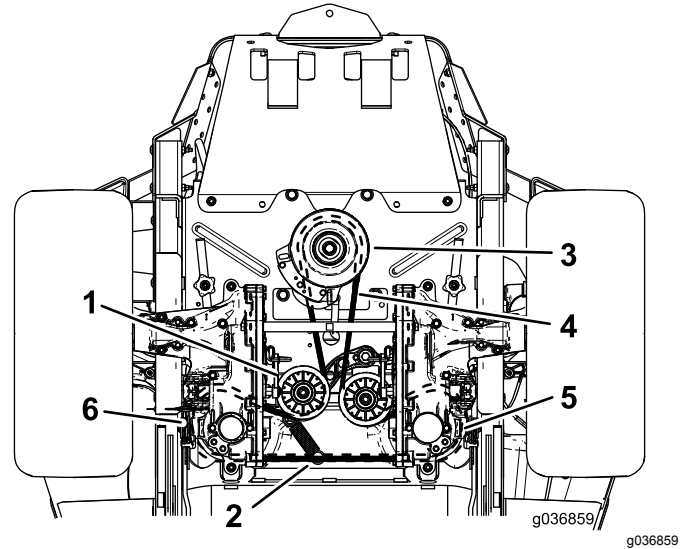

Figure 66
4. Raise the machine and support it with jack stands (Figure 66).
6. Remove the idler spring from the post (Figure 66).
8. Install the new belt around the engine pulley and the 2 hydraulic-pump pulleys (Figure 66).